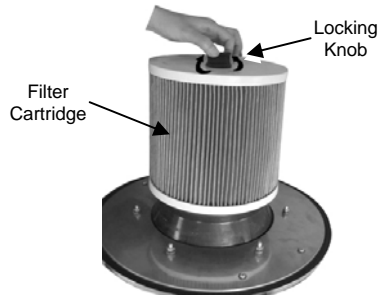

Fig. 22
5. Turn the locking knob to unlock the filter cartridge from the filter holder. (Fig. 22)
9. Turn the locking knob to lock the filter cartridge from the filter holder. (Fig. 22)